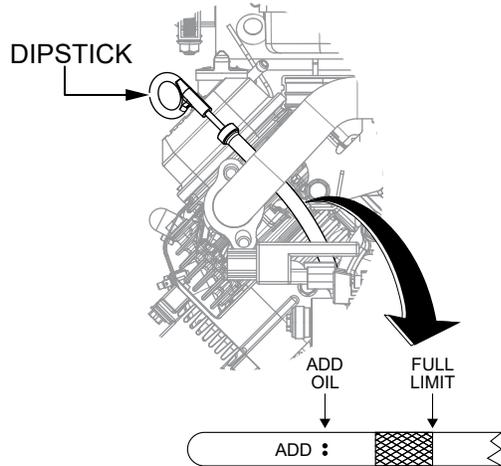

Figure 16. Engine Oil Dipstick
2. Pull the **engine oil dipstick** (Figure 16) out of its holder and wipe it with a clean cloth.
4. Determine if engine oil is low. Oil should be between the upper and lower marks (Figure 16) on the dipstick.